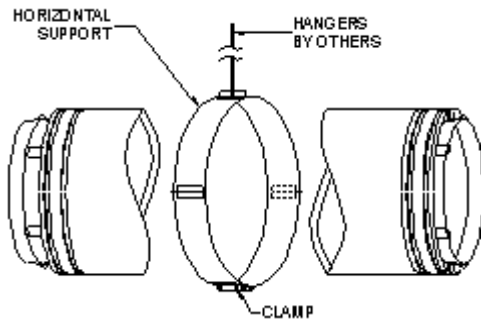

Figure 1
Saf-T Vent CI Plus must have supports for every six (6) feet of horizontal run and after every transition from vertical to horizontal. For large diameters, 24"-32" use parts numbered CCM24HZZS - CCM32HZZS. The support may be attached from the center bracket, figure 1 or attached to the side brackets, figure 2. Support hangers by themselves do not maintain the necessary clearances to combustible materials; be sure to consider clearances when planning the system. For 5" thru 24" diameters use support clamp part number 4627SS-42627SS and attach as appropriate.